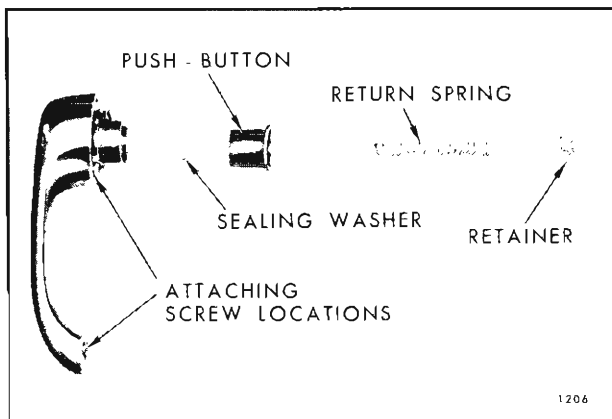

Fig. 2D8—Front Door Outside Handle Assembly
3. Remove screws through inner panel. Remove door handle and gaskets from outside of body (See Fig. 2D7).